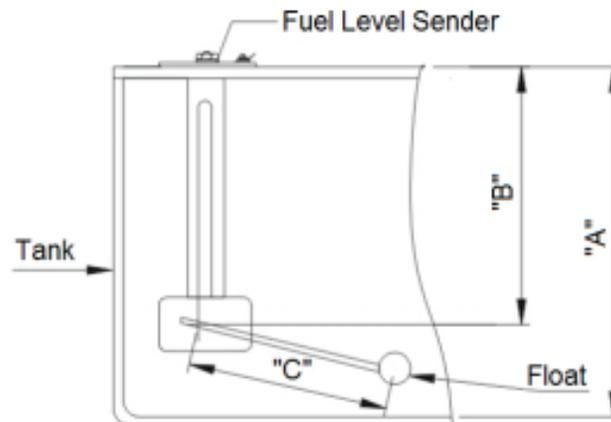

Figure 4 – Fuel Level Sender Tank Dimensions
1. Install the fuel level sender into the fuel tank following the below instructions. The Sniper EFI 81-93 Dodge D-Series Fuel tank is 13.5 inches deep, which will require elimination of a part of the fuel level sender assembly. See **Figure 4** and proceed as follows.